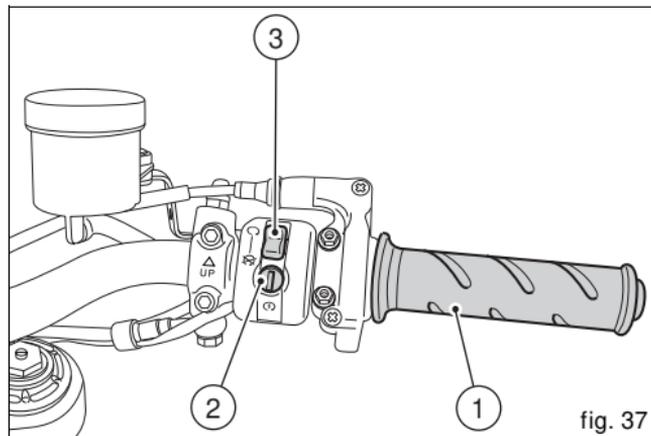
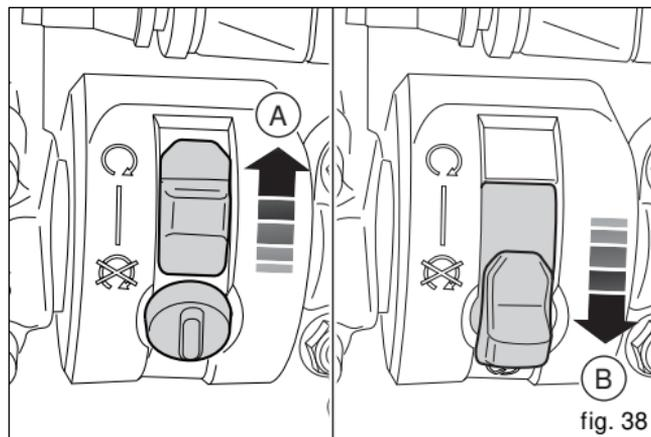

fig. 37
fig. 38
- 1) if the code is recognised, the immobilizer enables engine ignition. Press the START button (2, fig. 37), to start the engine;
RH switch (fig. 37 and fig. 38)
- position \bigcirc (RUN) = run (A, fig. 38);
- position \otimes (OFF) = stop (B, fig. 38).
Throttle twistgrip (fig. 37)